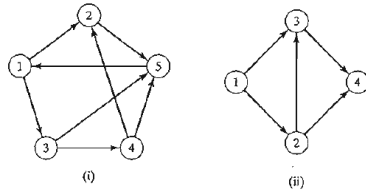

FIGURE 6.5
- For each network in Figure 6.5 determine (a) a path, (b) a cycle, (c) a tree, and (d) a spanning tree.
- Determine the sets N and A for the networks in Figure 6.5.